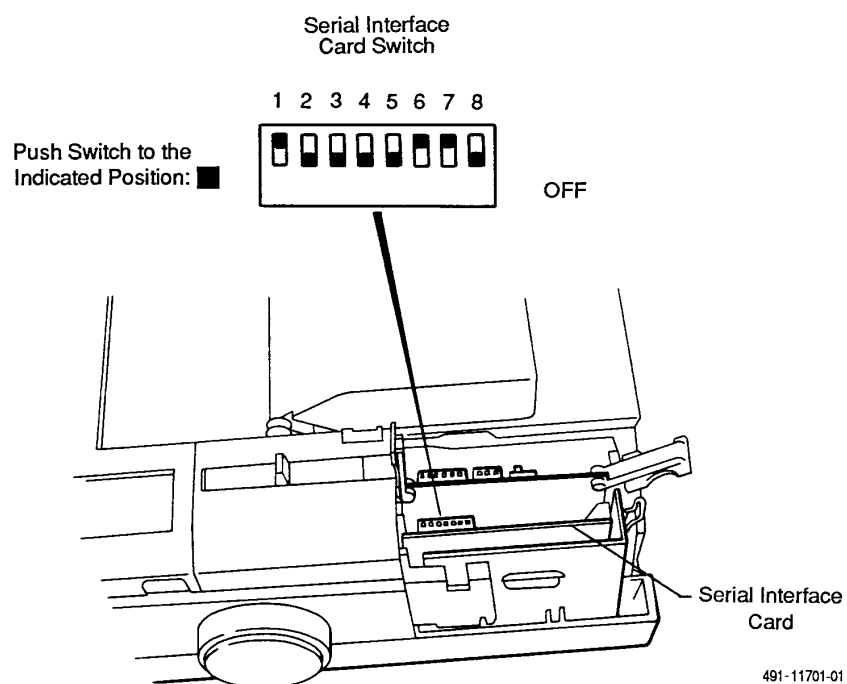

Figure 3-8. DX2300 — Serial Interface Card Settings (9600 Baud)
5. The serial interface card contains a single DIP switch. Figure 3-8 shows the location of the card in the printer and indicates the DIP switch settings for 9600 baud.